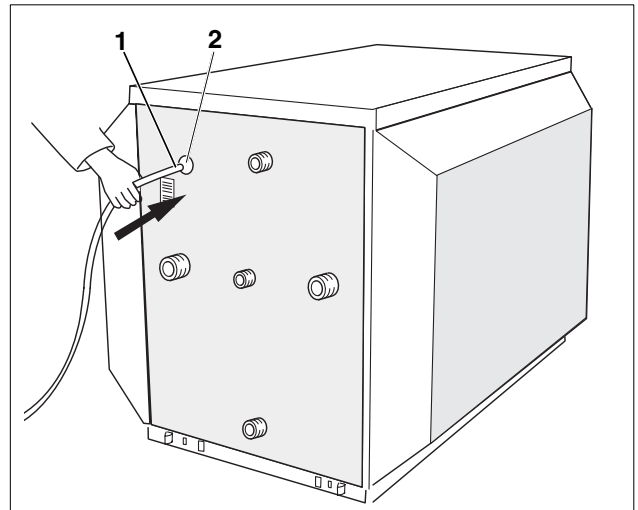

Fig. 11 Installation of temperature sensor
- Guide the sensor wiring (Fig. 11, **Item. 1**) into the raceway from the rear of the tank (Fig. 11, **Item. 2**).